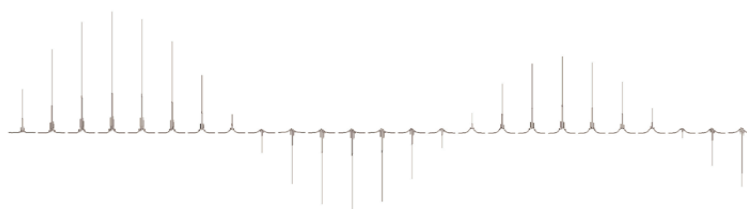

Figure 88. CPMAS pwX90 for $4.0 \mu\text{s}$ ^1H 90-degree pulse
23. Readjust the value of **aX90** to obtain a ^1H 90-degree ^1H pulse pwX90 equal to the ^{13}C pulse specification, see Figure 88.